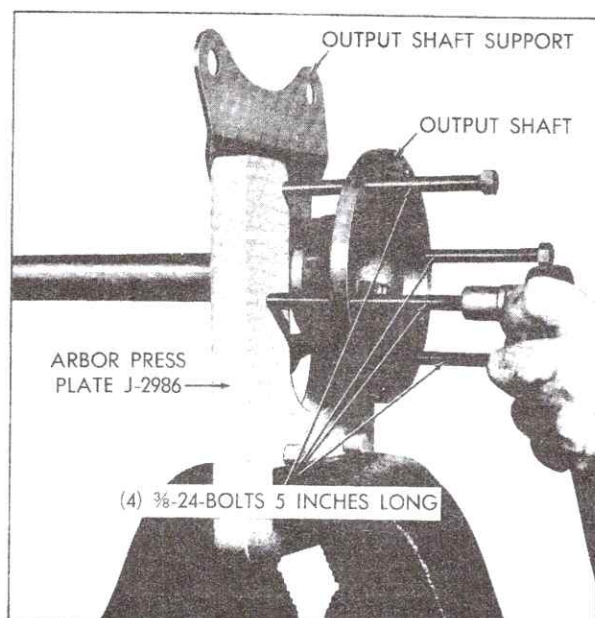

Fig. 3-61 Removing Right Hand Output Shaft Support and Bearing
3. Clamp output shaft in a vise as shown in Fig. 3-61.
4. Install Rear Wheel Bearing Plate and Pin Assembly, J-2986-1, and four 3/8-24 bolts, five inches long on output shaft, Fig. 3-61.